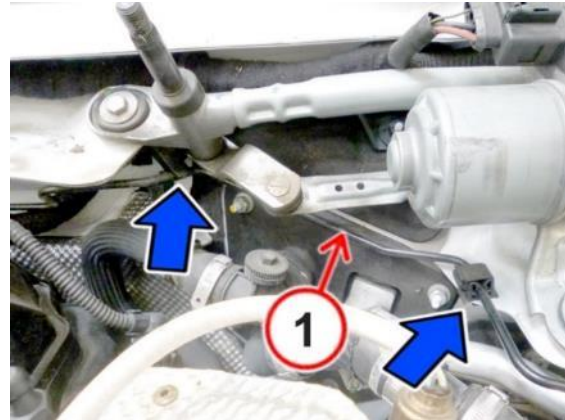

Figure 39 – Brake Fluid Tube
54. Release the brake fluid tube (1) from the anchor points identified with blue arrows (Figure 39).
72. Install the brake fluid tube (1) to the anchor points identified with blue arrows (Figure 39).